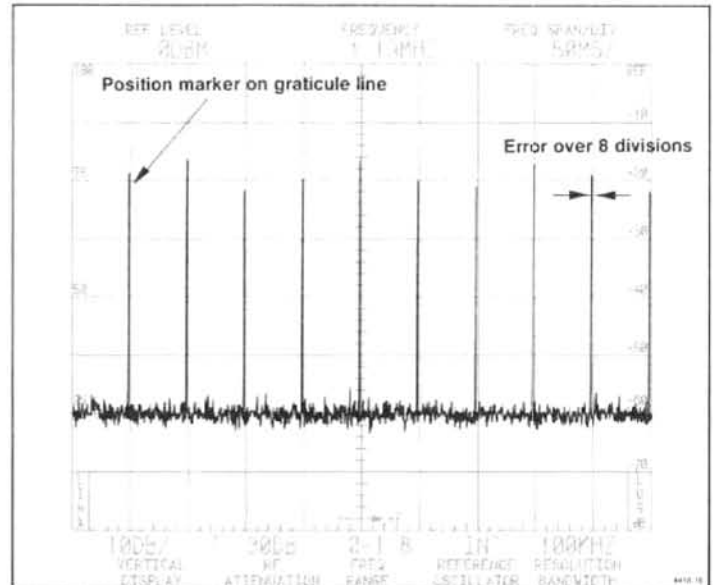

Figure 4-7. Typical display to illustrate how time/div accuracy is measured.
d. Apply 50 ms time markers. Adjust CENTER FREQUENCY, if necessary, to display the markers on the time domain display (see Figure 4-7).